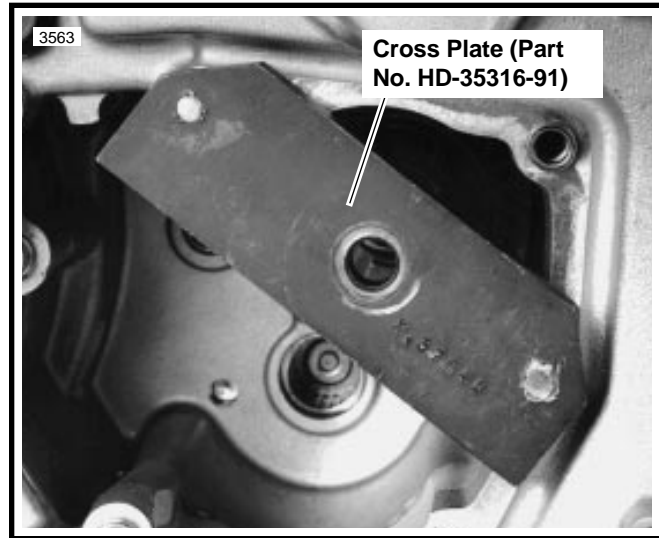

Figure 6-36. Support Bracket Mounting
3. See Figure 6-36. Use MAIN DRIVE GEAR REMOVER AND INSTALLER \(Part No. HD-35316-A\) with CROSS PLATE \(Part No. HD-35316-91\). Take support bracket (1) and insert pins, at one side, into holes which are now exposed under access cover.